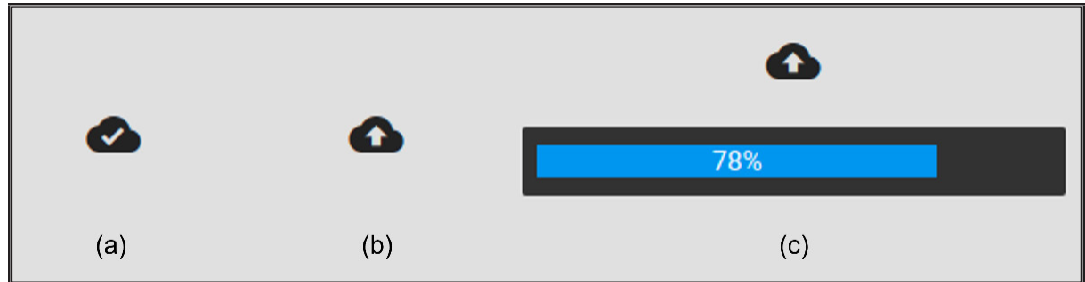

Figure 3: Upload Indicator
1. Once uploading is complete, the symbol will become a tick, indicating it is finished uploading as seen in figure 3 (a).
2. Once a procedure is finished and if recording was enabled, the video will begin to upload. Demonstrated by the symbol with an up arrow as seen in figure 3 (b).
3. If a user wishes to see the progress, they can hover the mouse and see a percentage. Example at 78% complete as seen in figure 3 (c).